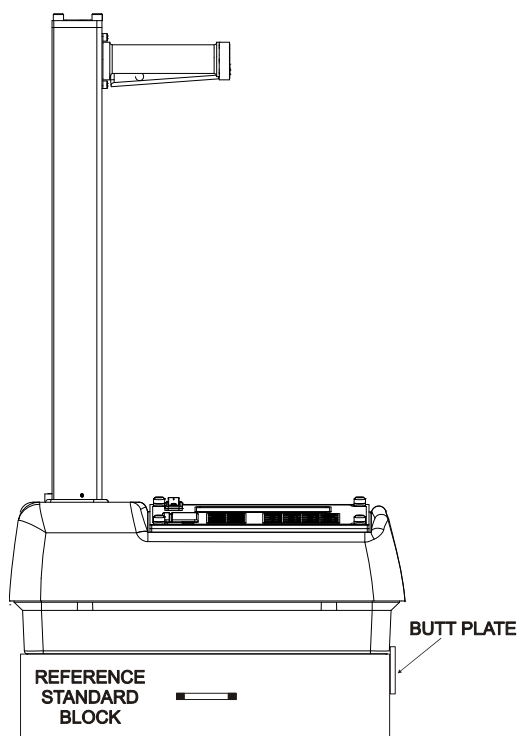

Figure 4–1. Standard Count Position
Place the reference standard block on the standard count site. As shown in Figure 4–1, place the gauge on the reference standard block, with the right side (keypad side) of the gauge against the metal butt plate.
- If the standard count *fails* and it has been *less than* a month since the last standard count, but the count was performed correctly and the failure is less than 5%, press the **<YES>** key. If the failure is more than 5%, press the **<NO>** key. Ensure that the gauge is properly positioned on the reference standard block (Figure 4–1). Verify that the standard count site meets the criteria listed on page 4–2. Take another standard count and accept it if it fails by less than 5%. If the standard count fails four times, perform a stat test (see page 5–5) and a drift test (see page 5–7), then contact your Troxler representative.
- ✓ Put the drill rod through the extraction tool and then through one of the guides on the scraper plate (Figure 4–2).
- ✓ Before removing the drill rod, mark the outline of the scraper plate as shown in Figure 4–3 to ensure the gauge is placed over the same area as the scraper plate.